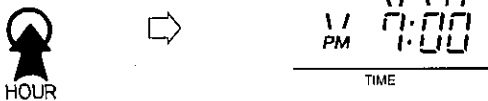

Fig. 16
2. Press the HOUR switch repeatedly to select the current hour (set to PM "7"). (Fig.16)